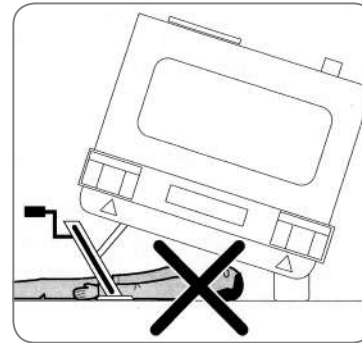

Figure 7.02
- If the spare wheel is kept under the Shelter, pull the spare wheel holder (figure 7.02) towards yourself and downwards. The (optional) spare wheel for the Shelter is kept in the drawbar compartment.